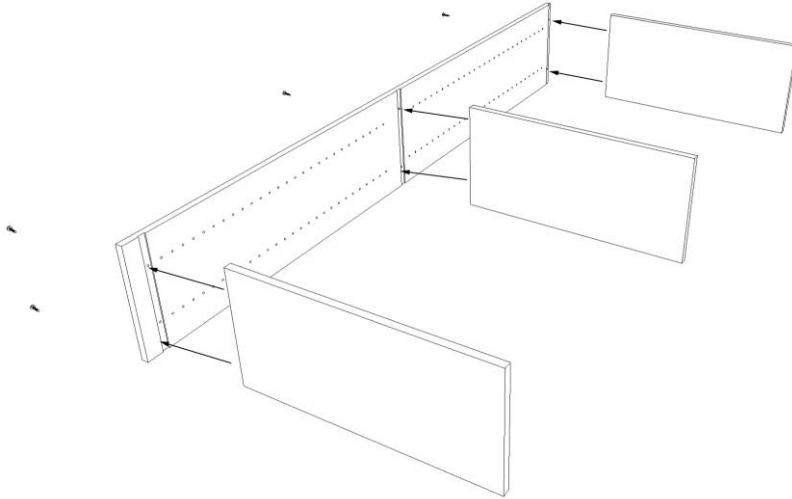

Figure 1
2. Locate the pre-drilled holes on the left side panel and attach to the top, bottom and fixed panels using the screws provided (**Figure 1**).